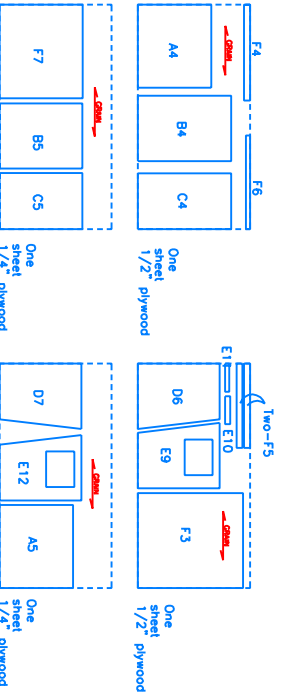

FIGURE 1
- 1) Lay out your materials as outlined in the suggested plywood materials layout (Fig. 1), the 2x2 cutting requirements are found along side the instructions for assembling each component. Draw out all parts exactly as illustrated, including the letter designations, in pencil. Ensure to leave a small space between cut lines to allow for the width of the saw. Before cutting, double check all measurements to ensure that they are correct. Always cut on the waste side of the line.